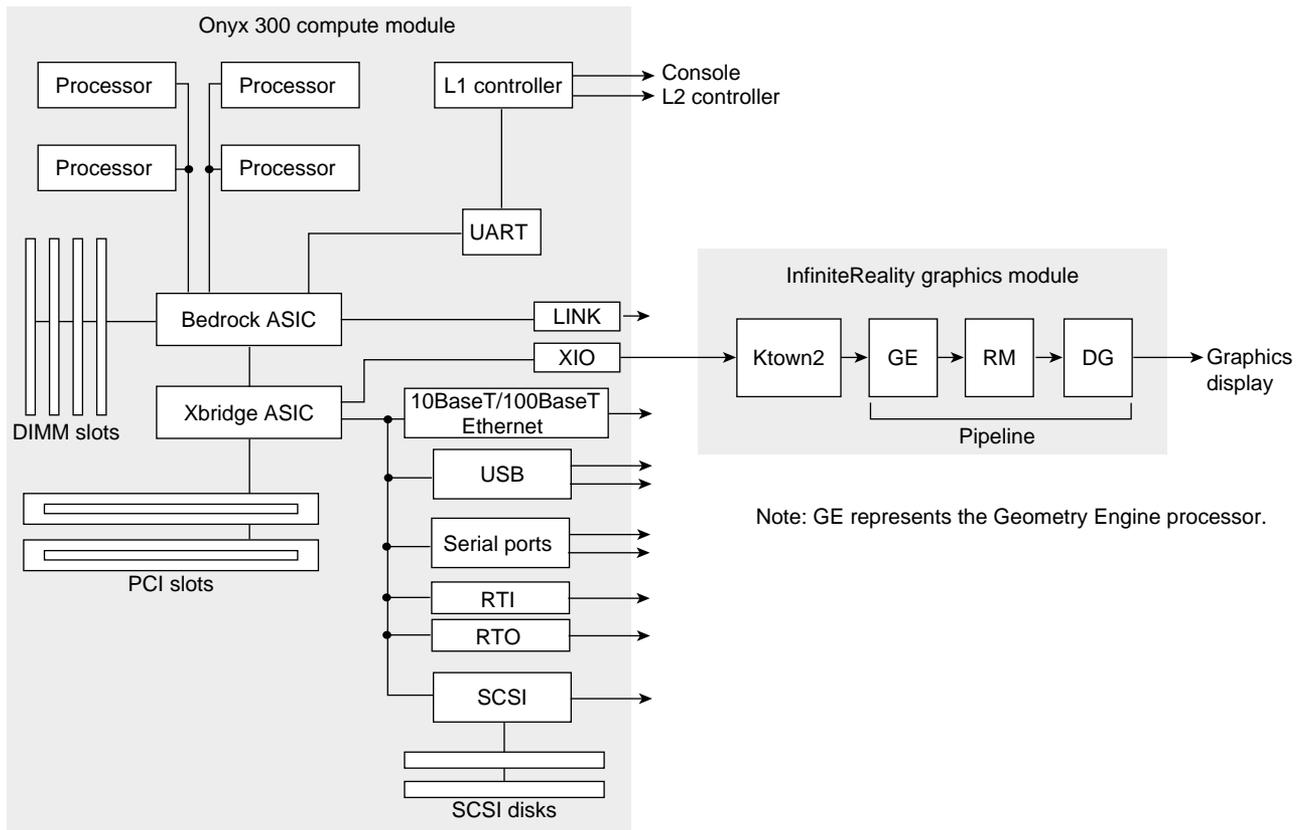

Figure 1-3 Onyx 300 Graphics System Block Diagram
The XIO port of the Onyx 300 compute module connects to the Ktown2 board of the InfiniteReality graphics module as shown in Figure 1-3. In simplified terms, the Ktown2 board converts the data that it receives from the compute module to differential signal levels and passes the signals to the Geometry Engine processor. This processor creates the polygons that are superimposed on the flat image to make it look three dimensional. After it creates the polygons, the Geometry Engine processor passes the polygons to the raster manager (RM). The RM processes the polygons by adding color, texture, and other elements that make the image look real. The RM passes the image to the display generator (DG) for formatting so that the image can be displayed on a monitor.